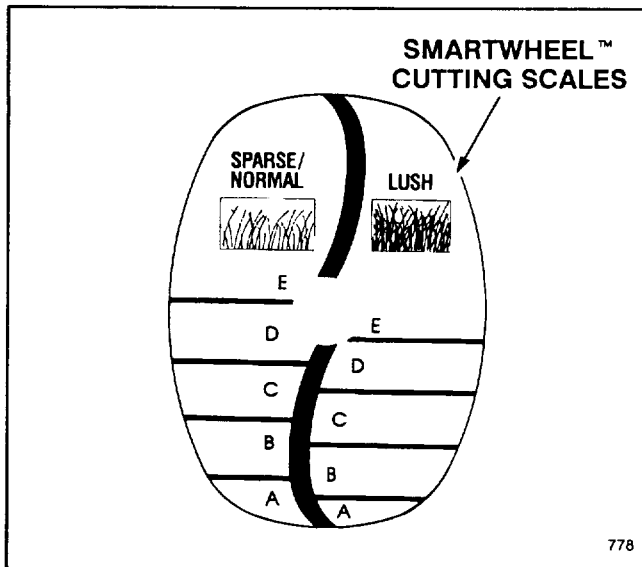

Figure 9
1. Before starting the engine and beginning to mow, push the mower into the grass. Stop when the words SPARSE/NORMAL and LUSH are upright on the SmartWheel design on the rear left wheel (Fig. 9).
2. Using the color coded SmartWheel design (Fig. 9), compare the tips of the grass blades to the colors/letters on the wheel. Whichever color/letter the tips of the grass blades correspond with is the proper cutting height.